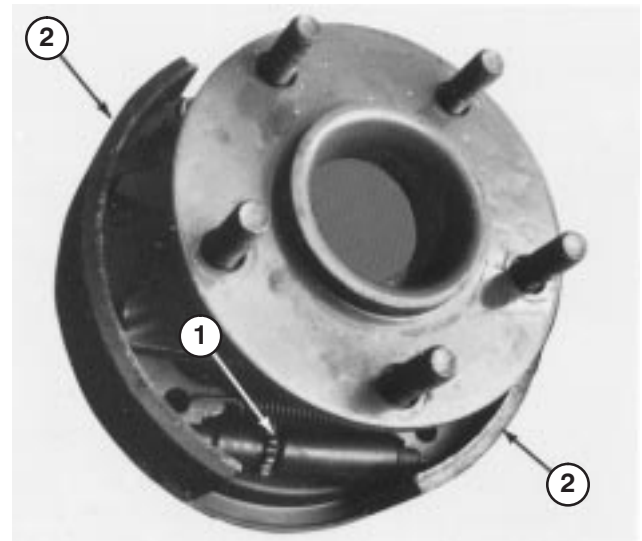

Figure 62
6. Using a brake adjusting tool or screwdriver, rotate star nut (Fig. 61) down until brake drum (Fig. 62) locks because of outward pressure of brake shoes (Fig. 62).